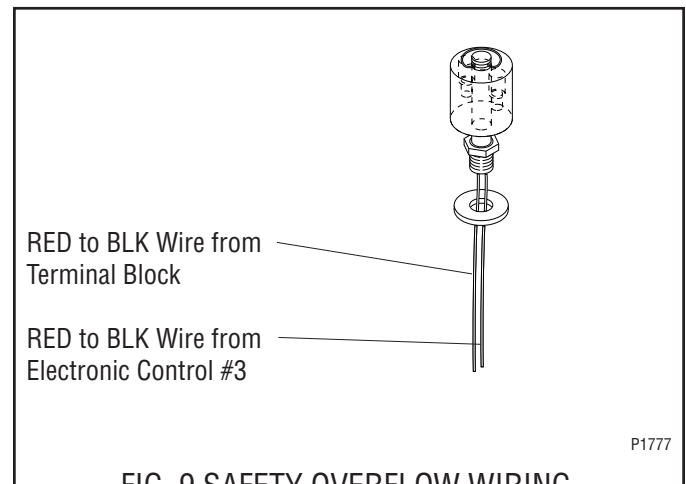

FIG. 9 SAFETY OVERFLOW WIRING
6. Reconnect the wires, FIG. 9.